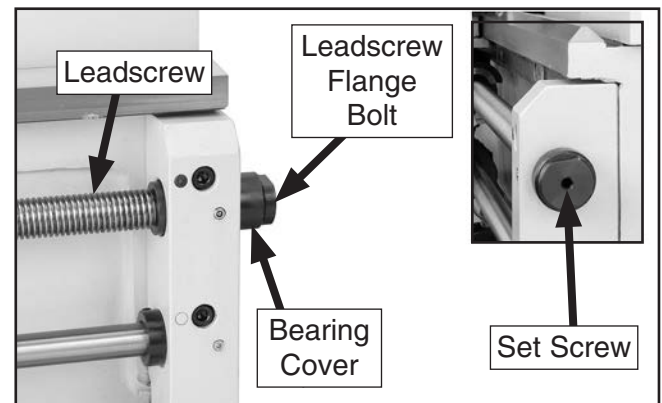

Figure 103. Leadscrew end play bearings.
2. Back out the leadscrew set screw approximately five turns (see **Figure 103**).
3. Un-thread the leadscrew flange bolt (**Figure 103**), and slide the bearing cover off the end of the leadscrew.